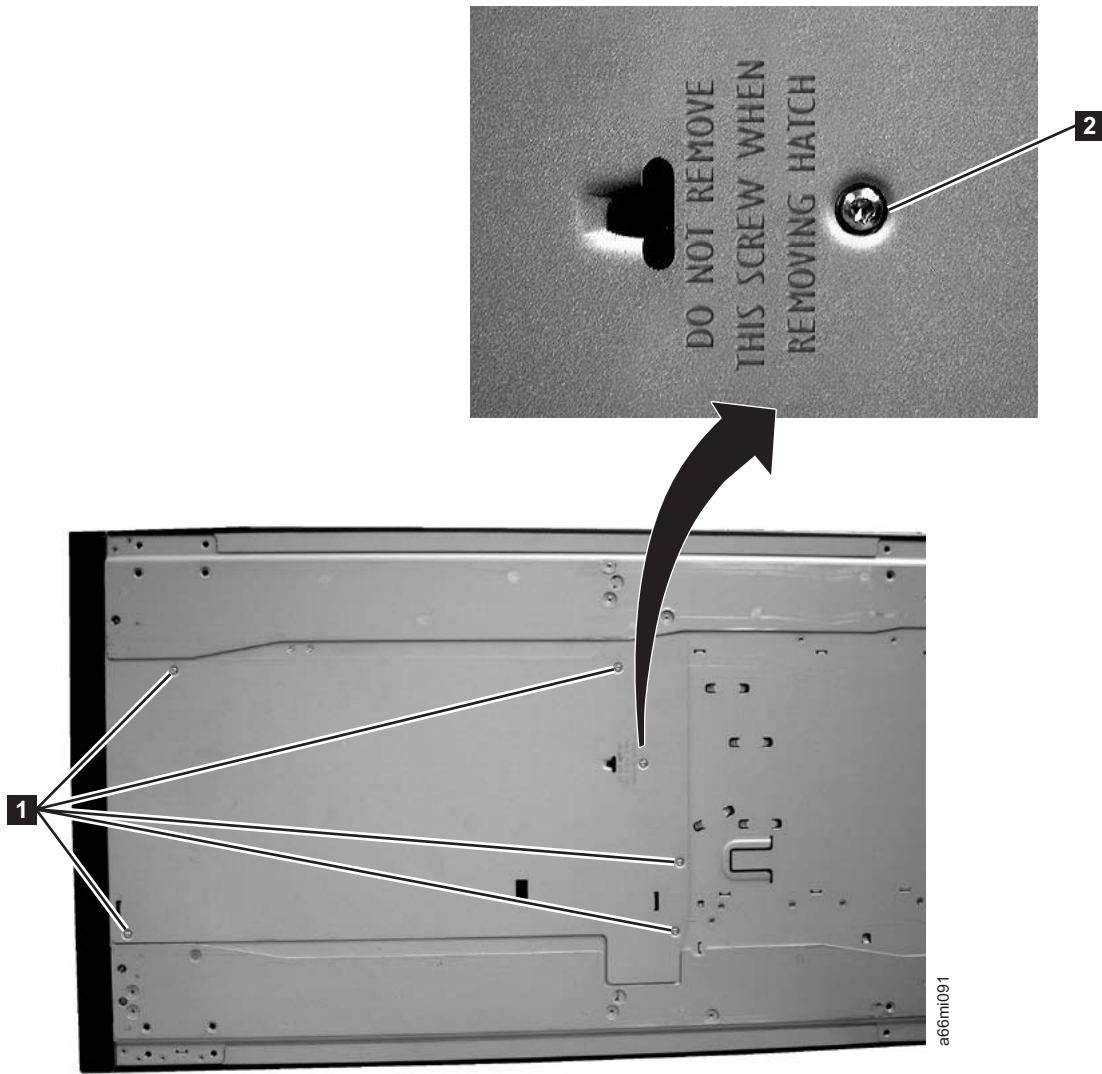

Figure 4-10. Bottom cover of the 5U control module
2. Turn the 5U control module on its side and remove the 5 - T10 Torx bottom cover screws (**1** in Figure 4-10 on page 4-10).
Important: DO NOT loosen or remove the screw holding the home sensor (**2** in Figure 4-10 on page 4-10). This screw has the same T10 Torx head as the cover screws, but it is longer and has a coarse thread for screwing into the plastic home sensor.